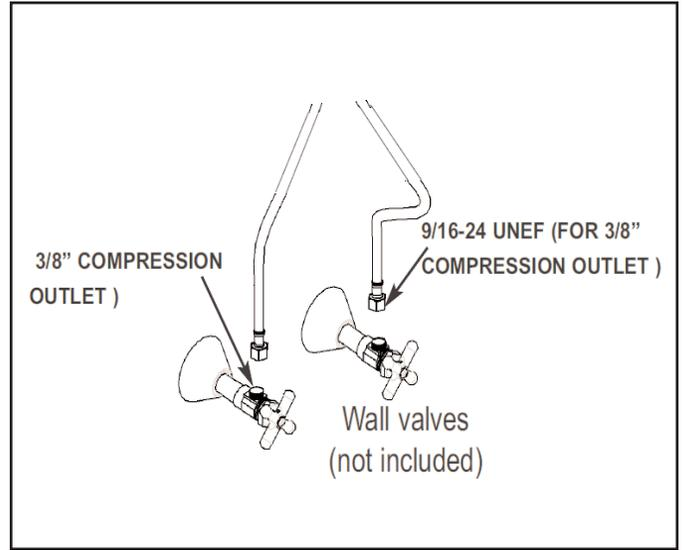

Figure 2
3. Attach hot/cold spout supply hoses to appropriate supply lines and valves in the wall. See Fig. 2